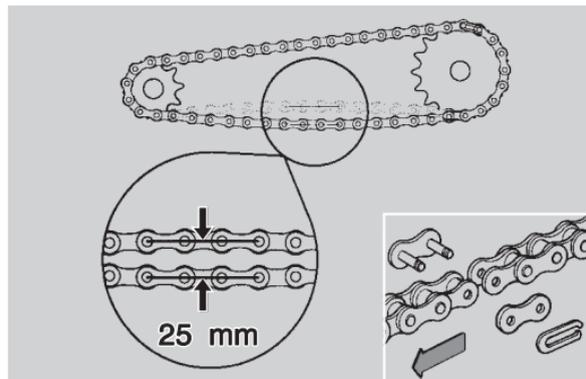

Fig. 31
- make sure that the vertical oscillation, in an intermediate point between pinion and crown in the lower part of the chain, is about 25 mm (Fig. 31);
If the chain is disassembled and then reassembled, make sure that the clip of the connection link is mounted with its open part opposite to the direction of advancement (Fig. 31).